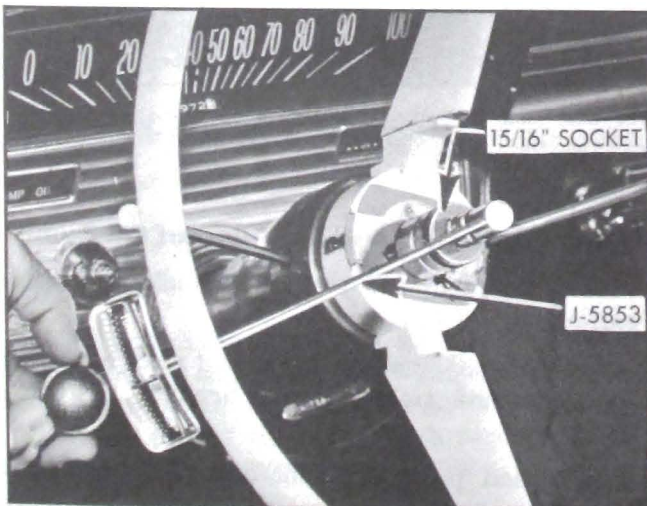

Figure 8-32—Checking Adjustments in Car
4. Turn steering wheel to extreme right or left position. Attach torque wrench J-5853 to steering wheel retaining nut and check the torque required to turn the wheel steadily in the range where lash normally exists between rack-piston nut and pitman shaft sector. See Figure 8-32. The lash range exists for one-eighth turn of steering wheel from either extreme position.